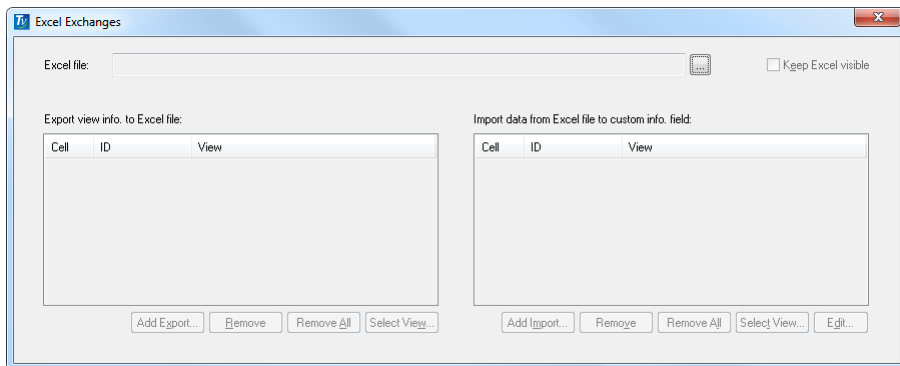

Figure 10-11 The Excel Exchanges dialog box
4. In the **Excel Exchanges** dialog box (see Figure 10-11 on page 455):